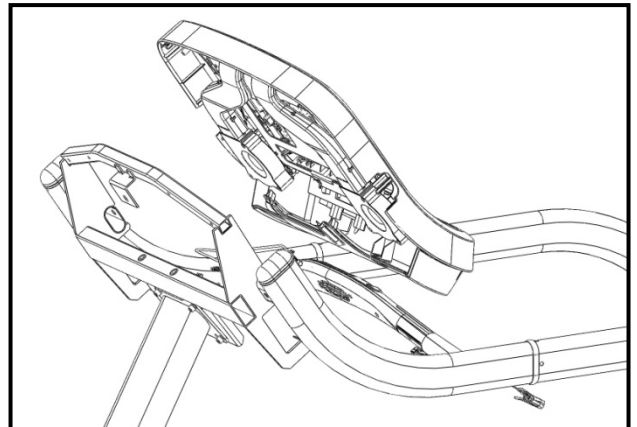

Fig. 15
15. Hover the top half of the display (Fig. 15) over the console frame.